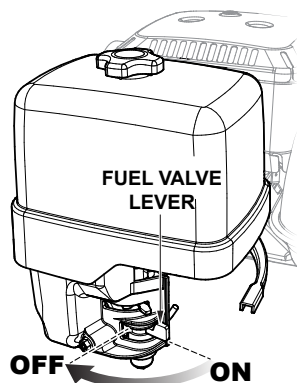

Figure 23. Fuel Valve Lever (OFF)
3. Place the fuel shut-off lever (Figure 23) in the "OFF" position.